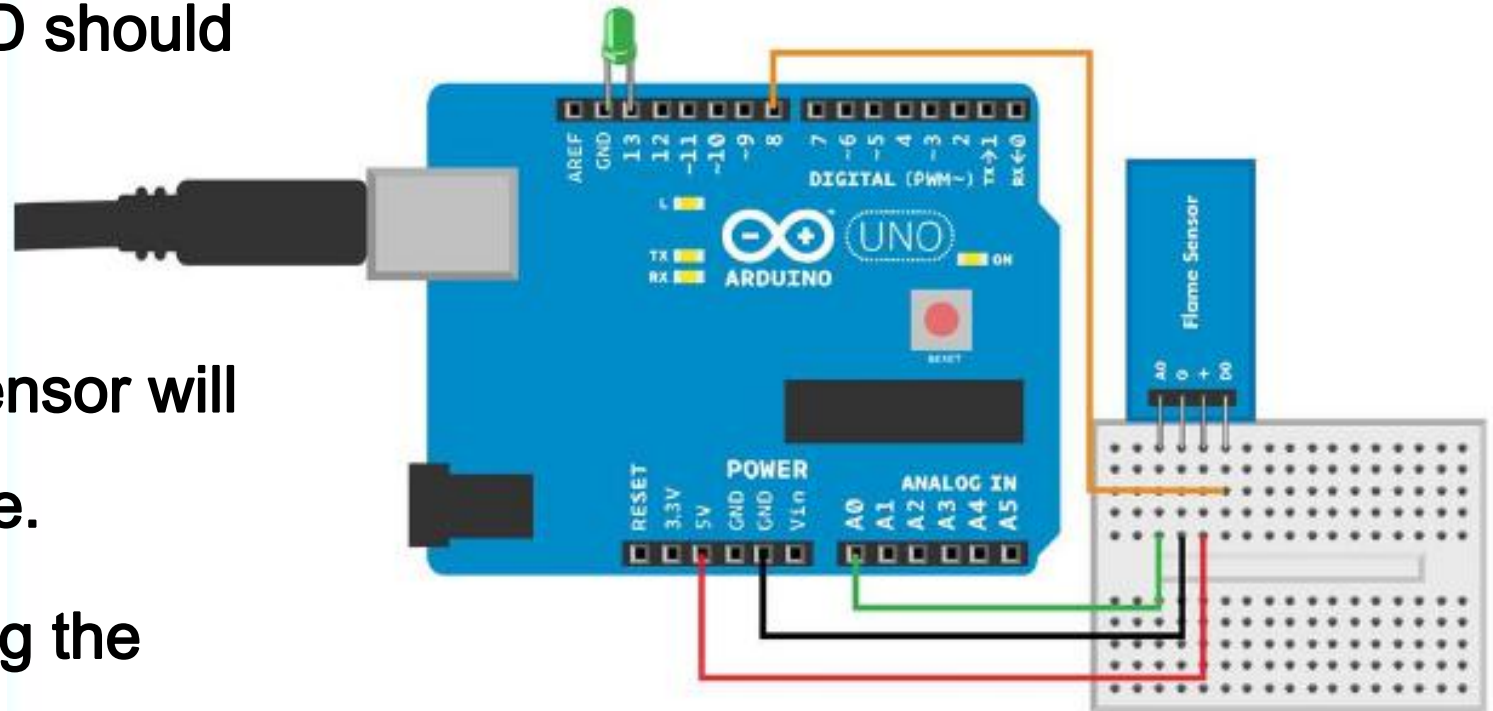

Figure 7-6. Flame sensor with LED
- First, put an extra LED between GND and pin 13 (see Figure 7-6). It's easier to see a full-sized LED than the onboard LED, so you'll be more likely to notice when the sensor is activated.